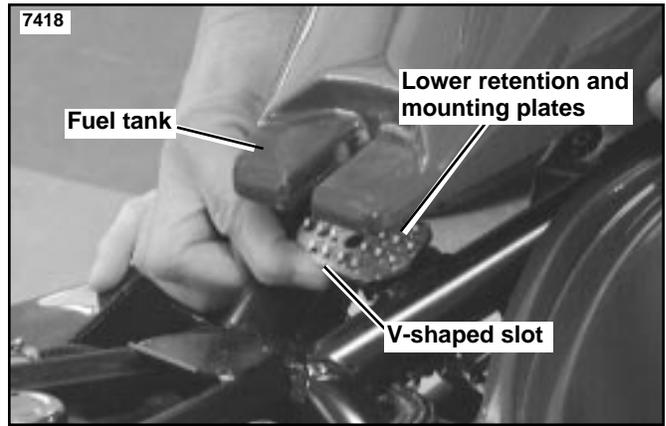

Figure 8. Bottom Plate
18. See Figure 8. Carefully raise the back of the fuel tank and place mounting plate and the lower retention plate in position on the frame. **It is important that the prongs on the retention plate face toward the rear of the vehicle and be in contact with the fuel tank. Also, the shorter straight side of the mounting plate must face the rear of the vehicle.**